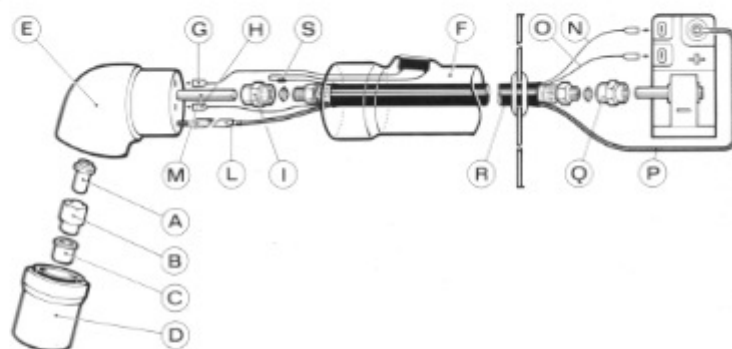

Fig. 4
1) Substitution of consumable parts (fig. 4).
2) Substitution of torch body **E** (fig. 4).
3) Substitution of complete torch (fig. 4).
4) Substitution of cable **R** (fig. 4).